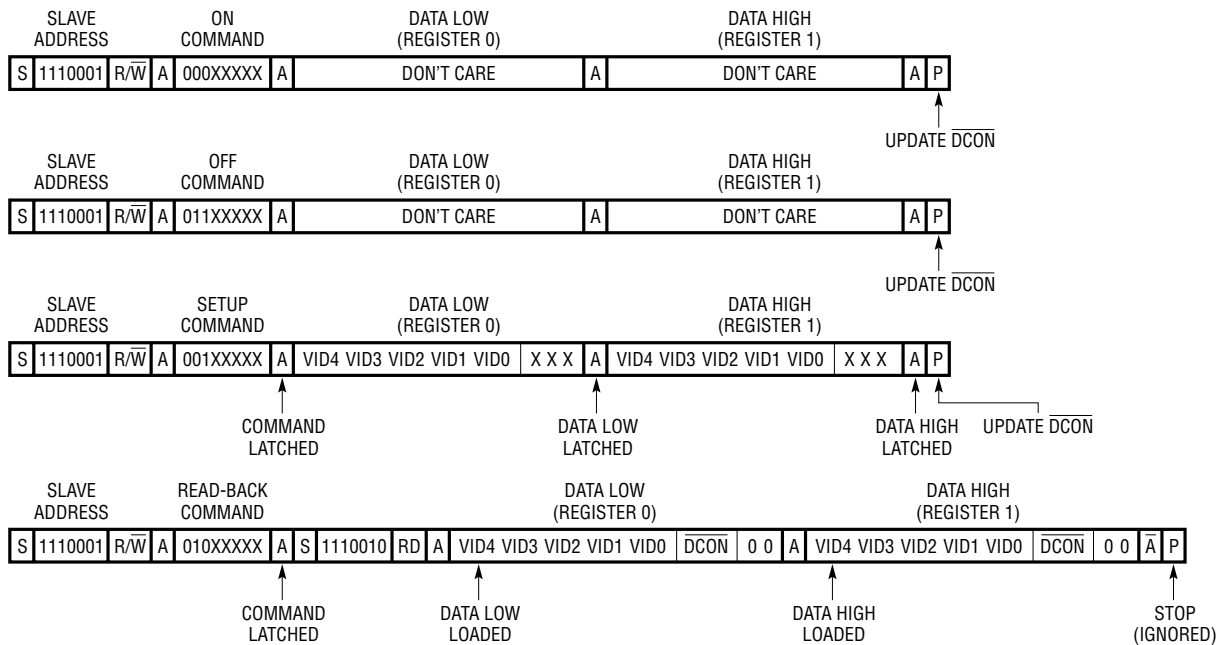

Figure 2. Write Word and Read Word Protocols
The TTL compatible VRON input pin and the output of the internal on/off state machine (SMBON) control the state of the CPU\_ON, IO\_ON, CLK\_ON and PGOOD pins. SMBON is accessed using SMBus protocols and must be programmed to a high state before the converters can turn on. The SMBus protocols (see Figure 2) incorporate safeguards against errors caused by bus conflicts.
The Write Word and Read Word protocols (Figure 2) share three common features. First, the 7-bit slave address for both protocols is internally hardwired to 1110001B = E2H. A single  $R/\overline{W}$  bit follows the slave address. This bit is low for data transfer from the microprocessor to the LTC1699-80, LTC1699-81 or LTC1699-82 and high for transfers in the opposite direction.
Each Write Word protocol (Figure 2) begins with a start bit (S) and ends with a stop bit (P). As shown in the Timing Diagram the start and stop bits are defined as high to low and low to high transitions respectively, while SCL is high. In between the start and stop bits, the microprocessor transmits four bytes to the LTC1699-80, LTC1699-81 or LTC1699-82. These are the address byte, an 8-bit command code and two data bytes. The LTC1699-80, LTC1699-81 and LTC1699-82 sample each bit at the rising edges of the SCL clock.